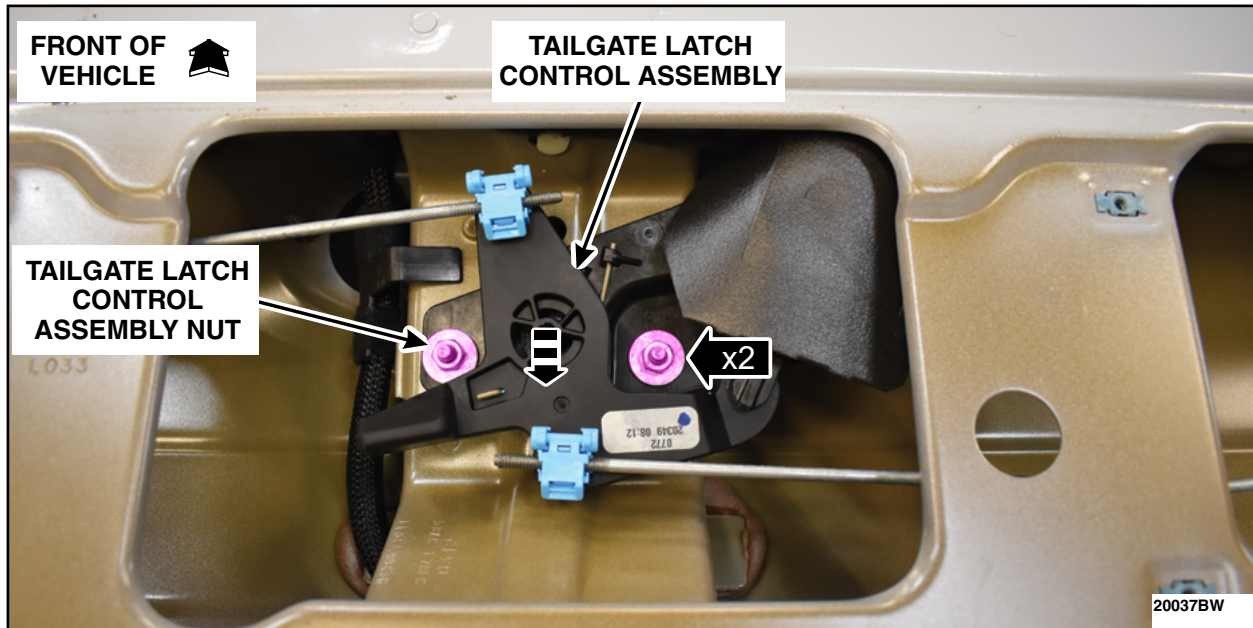

FIGURE 44
63. Remove the tailgate latch control assembly nuts and position the tailgate latch control assembly towards the rear of the vehicle. See Figure 44.